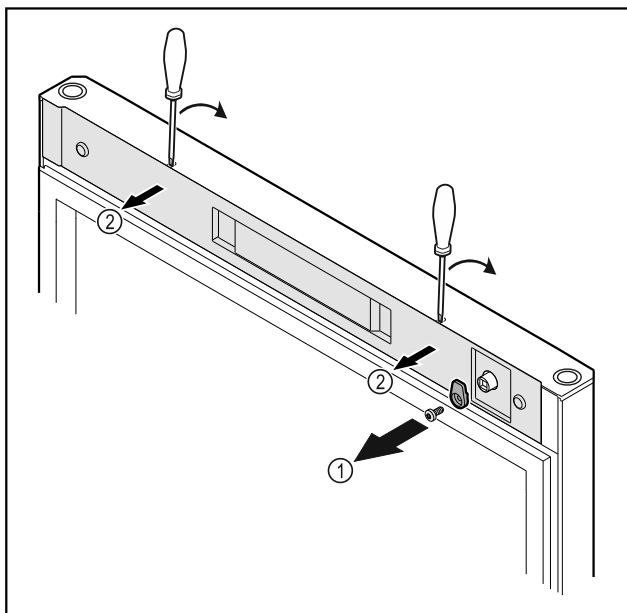

Fig. 10 *
- Unscrew the door latch Fig. 10 (1)*
- Unlatch the cover Fig. 10 (2) with a small screwdriver and remove it.*